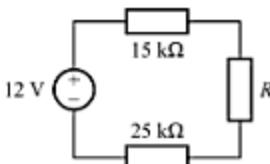

Fig. A-62
- A-19.** Refer to the circuit of Fig. A-62.